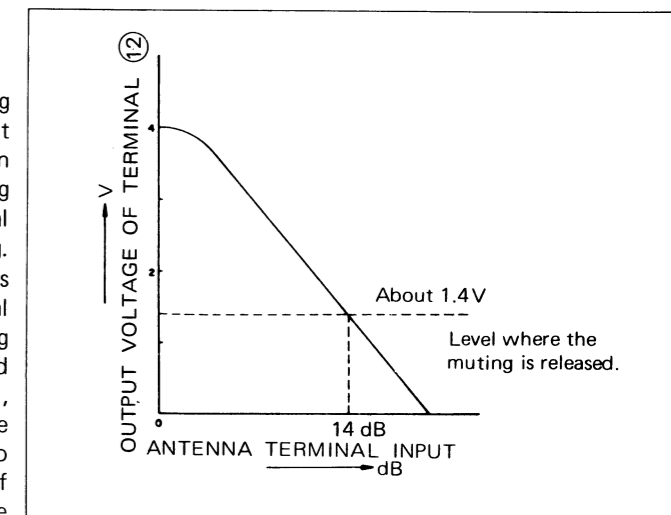

Figure 13
In ST-1616H/ST-1616HB, IC101 incorporates a muting circuit and this circuit is so designed that if FM input signal to the antenna terminal becomes about 14dB when the muting/air check switch (SW403) is kept at "muting on", the muting effect is cancelled and thus the signal can appear at the output without undergoing muting. The signal which serves to cancel this muting effect is produced based upon bias voltage appearing at the terminal ⑫ of IC101: this bias voltage is to determine the muting width to approx. 200 kHz. The signal thus created is passed on to the muting input circuit at the terminal ⑤ of IC101, via the muting/air check switch (SW403). In this way, the FM muting circuit becomes able to function. The signal to cancel the muting will be applied to the terminal ⑩ of the P.L.L. stereo multiplex demodulator IC201 to be forced to mono-operation. Figure 13 shows the output voltage of the terminal ⑫ of IC101.